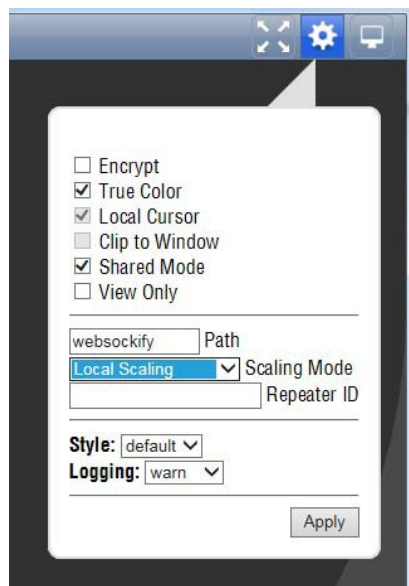

Figure 21: Settings dialog box with Local Scaling selected
3. In the Control bar, select the **Settings** icon (⚙️) to open the Settings dialog box. (See Figure 21.)